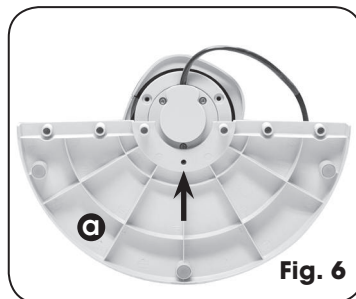
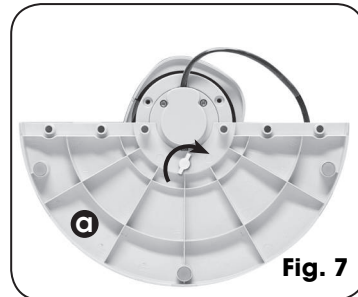

Fig. 6
Fig. 7
3. Holding base stand piece (a) with the curved side facing towards the bottom part of the tower fan body, position base stand piece (a) screw hole over the corresponding screw hole located underneath the tower fan body. (See Fig 6). Secure base stand piece (a) with 1 of the fastening screws. (See Fig. 7.).